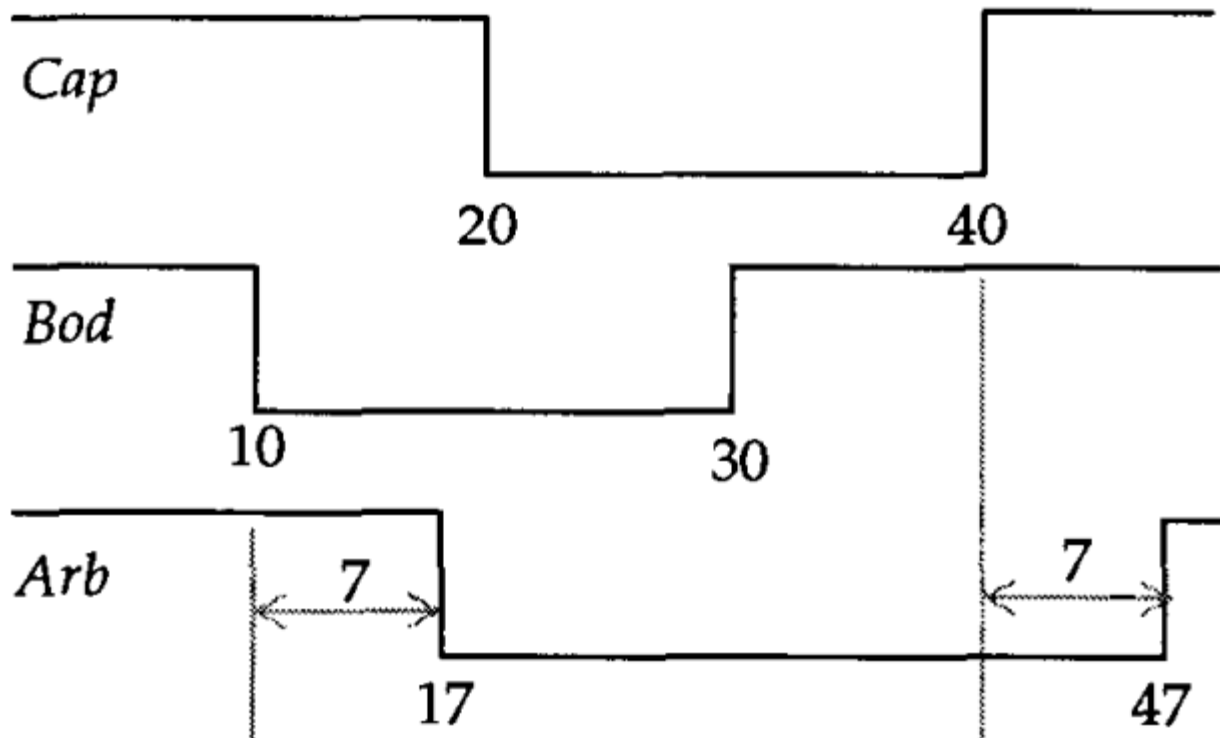

Fig: 3 Net delay with assignment delay.
- However since Arb has a net delay specified, the actual assignment to the net Arb occurs at time 17(=10+ 2 + 5). The waveforms in Figure 3 illustrates the different delays.